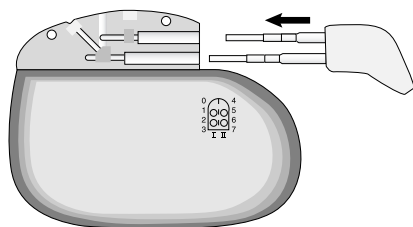

Figure 12. Insert connector plug into unused neurostimulator socket.
- Seal the unused neurostimulator socket (1 extension with 1 lead)—Insert the neurostimulator connector plug into the unused socket of the neurostimulator connector, and tighten the setscrews (Figure 12).